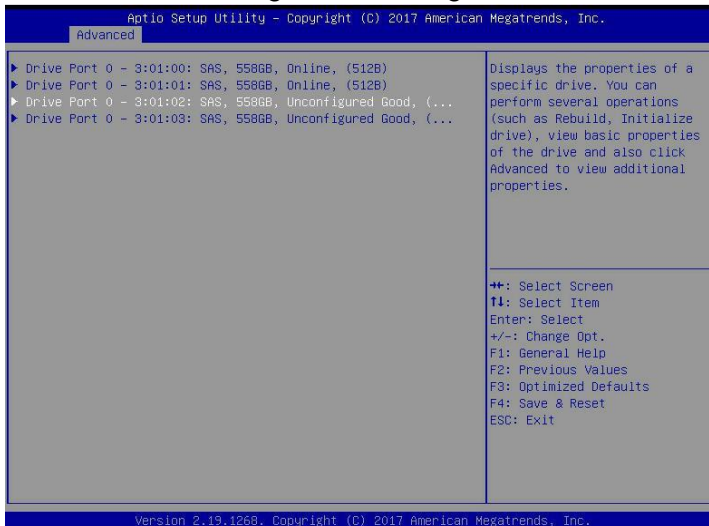

Figure 6-44
- b) Enter the interface shown in Figure 6-44, select the disk to be configured as a global hot spare disk, and press Enter.
✧ Figure 6-44 Drive Management management interface